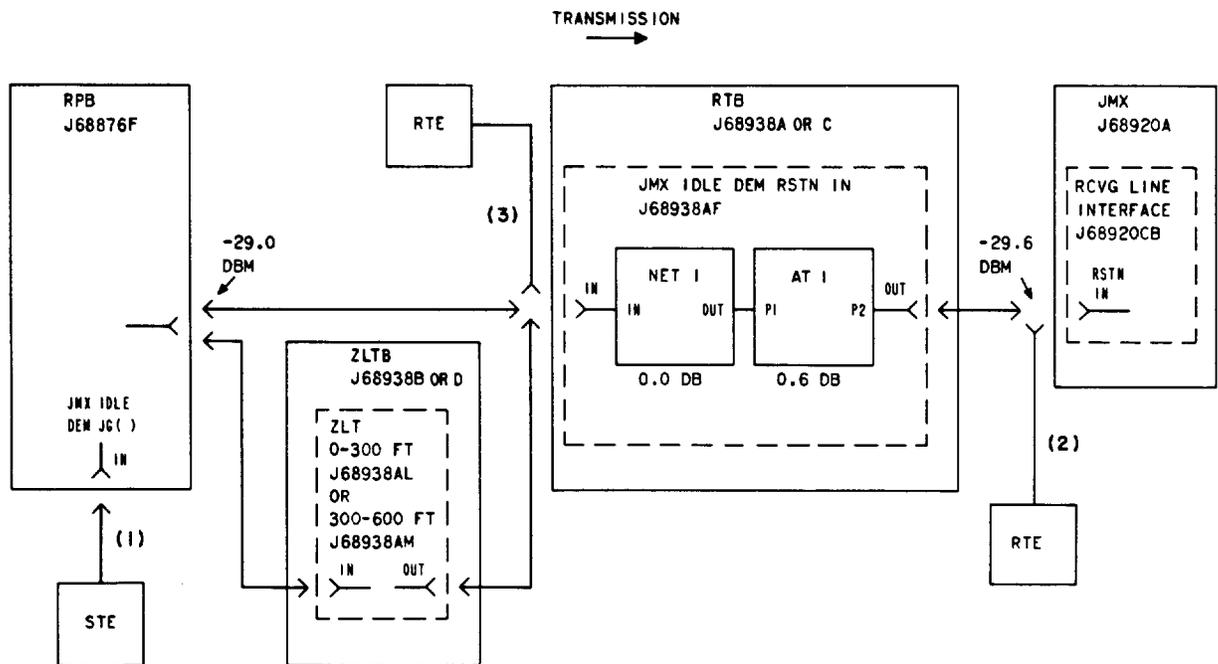

Fig. 6—JMX Idle Receiving Demodulator Input Restoration Trunk Circuit
4	Connect the STE to the JMX IDLE DEM IN jack at the RPB (J68876F) [Fig. 6, patch (1)].
9	Remove cable from the IN jack at the JMX IDLE DEM RSTN IN unit (J68938AF) in the RTB and connect cable to the RTE [Fig. 6, patch (3)].
21	Remove cable from the RSTN IN jack located in back of the RCVG LINE INTERFACE panel at the RCVG JMX. See local office records to determine proper jumbogroup. Connect RTE to cable [Fig. 6, patch (2)].
34	Remove the STE from the JMX IDLE DEM IN jack in the RPB [Fig. 6, patch (1)].
35	At the RCVG JMX, remove cable from the RTE and restore to the RSTN IN jack on back of the RCVG LINE INTERFACE panel [Fig. 6, patch (2)].